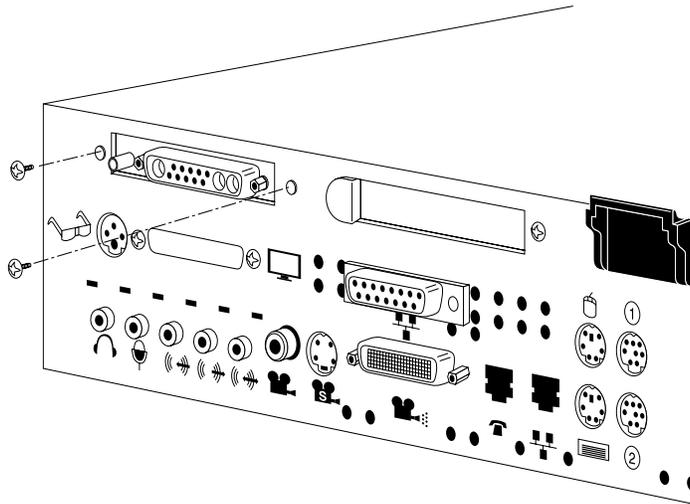

Figure 2-24 Securing the X Board to the Rear of the Workstation
- Using the Phillips screwdriver, insert and tighten the two screws in the locations shown in Figure 2-24.